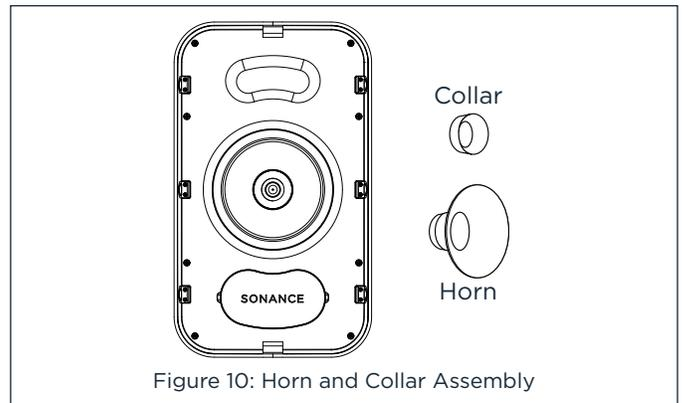

Figure 10: Horn and Collar Assembly
- Install the appropriate dispersion assembly. Sonance Professional Series High Output Loudspeakers feature a magnetic interchangeable collar/horn assembly that can be swapped out to achieve the desired coverage (see Figure 10). For wide coverage applications, leave the collar assembly in place (comes installed as default). For narrow coverage applications, remove the collar and install the horn.